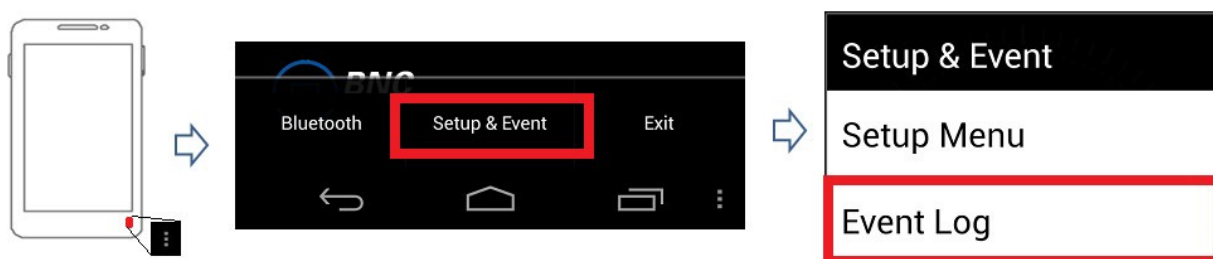

Figure 4.19. Navigating to the Event Log menu
1. With PeakAbout in Setup mode, touch the menu button (Figure 4.19)